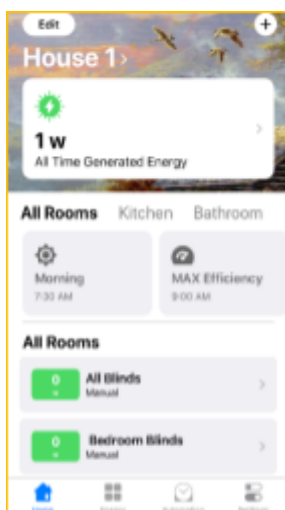
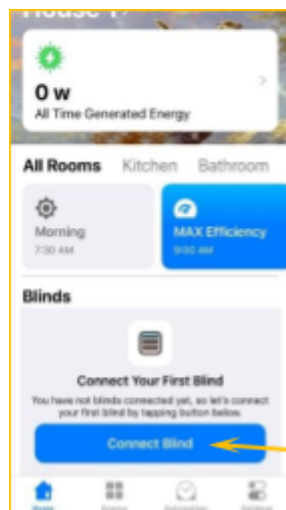

Figure 13
Figure 14
**10.4.1.** Click + in the top right corner to start (Fig. 13) and select **Blinds** tab or click **connect blinds** in the homepage (Fig. 14).